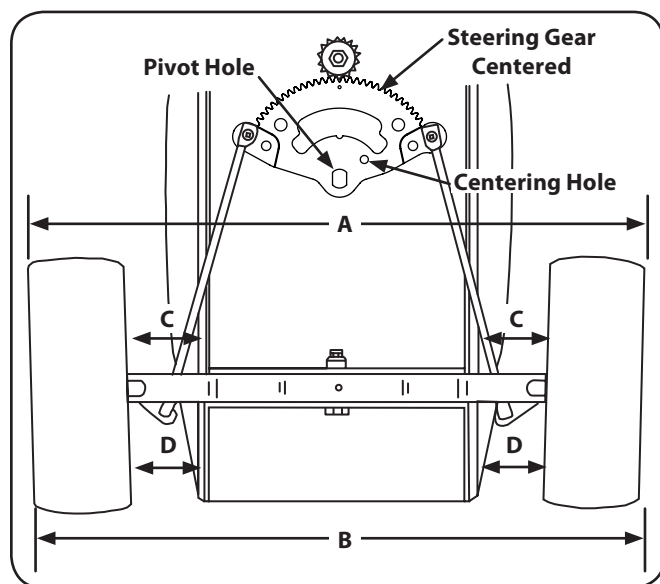

Figure 6-6
The front wheels should toe-in approximately $\frac{1}{8}$ to $\frac{1}{4}$ ", as measured across dimensions A and B. See Figure 6-6.
1. Check the steering gear to ensure it is in the centered position. The hole in the steering segment gear will align with the hole in the steering housing (See Figure 6-6).
3. Measure the distance between the bottom edges of the tractor frame channels and the marks on the front of each wheel (See measurement D in Figure 6-6). These two measurements should be equal.
4. Measure the distance between the frame and the marks on the rear of each front wheel (See measurement C in Figure 6-6). Measurement D should be approximately $\frac{1}{16}$ - to $\frac{1}{8}$ -inch less than measurement C on each side of the tractor.